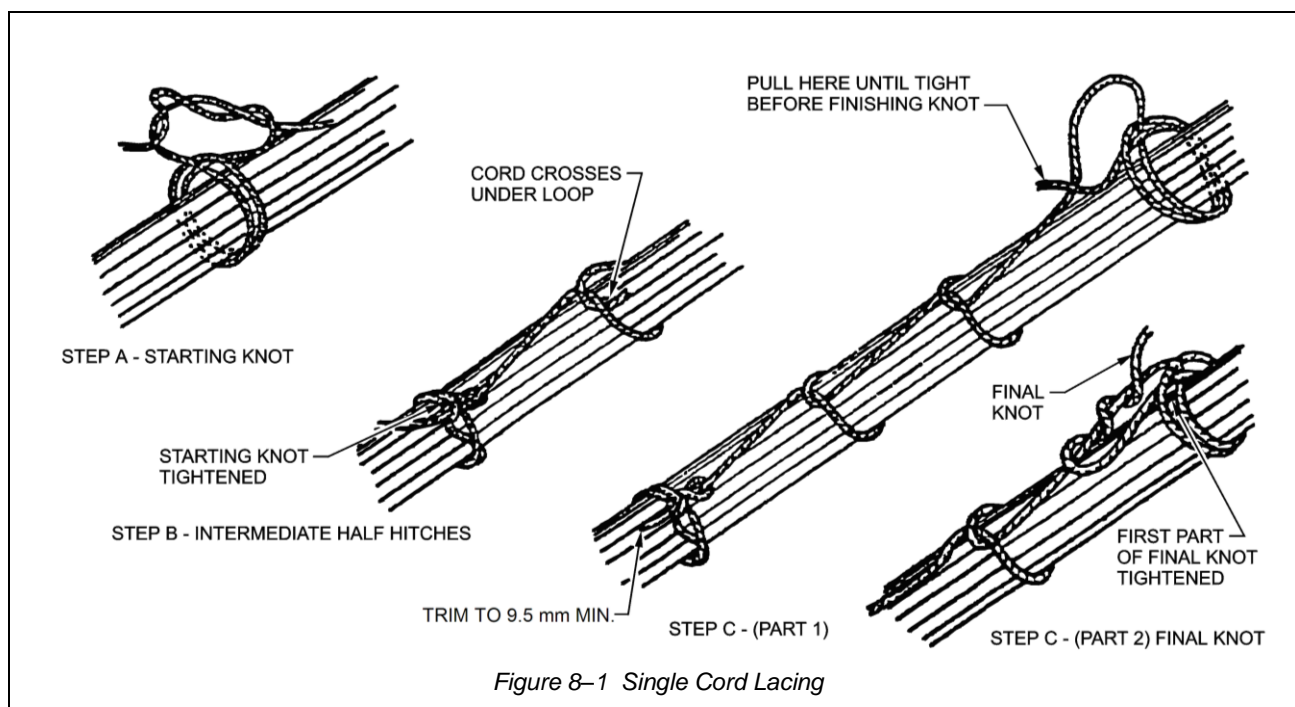

Figure 8-1 Single Cord Lacing
**22.** Lace a wire group or bundle with a single cord as follows (see Figure 8-1):